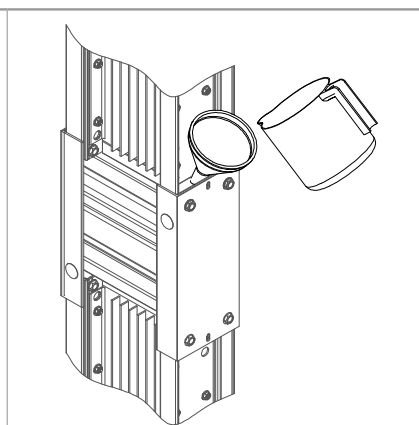

Figure 11.4
6. Place the liquid funnel into the hole as shown in Figure 11.4
7. Pour the mixed compound onto the area until full and **countercheck it in full condition after 30min** as shown in Figure 11.4. Complete cure time is in 8-12 hours @ 25°C or 1 hour @ 80°C.